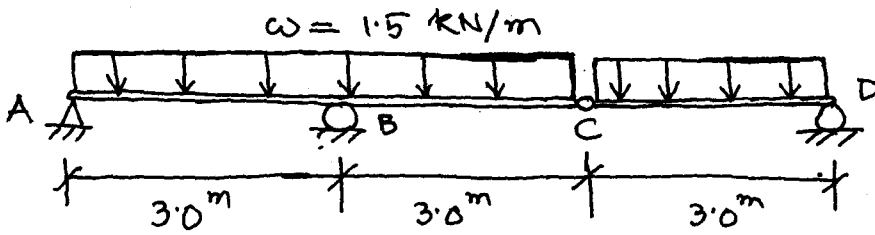

Fig. Q10a
Q.10(a) A compound beam made up of two bars AC and CD hinged together at C is supported and loaded as shown (Fig. Q10a). Construct shear force and bending moment diagram of the beam. Neglect self-weight of beam.